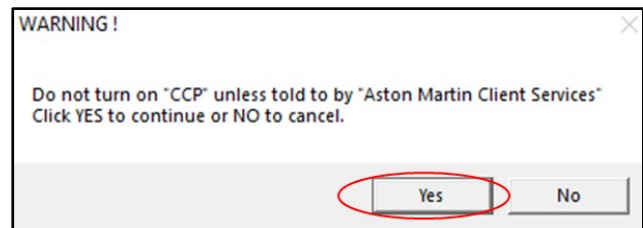

Figure 30
9. Click "Yes" on the dialog box (refer to Figure 30).